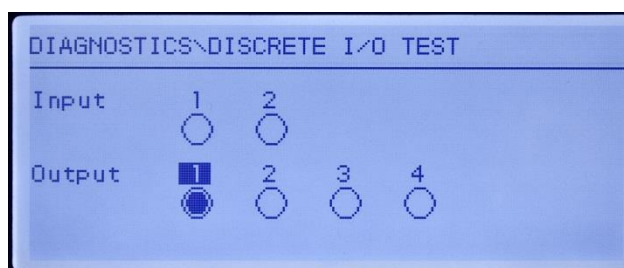

Figure 5-6: Discrete I/O Test Screen, Output 1 Active
- 3 Focus for control of a specific output is indicated by reverse video of the number above the output. When an output is in focus, pressing the UP navigation key turns the output ON. A smaller, solid circle is shown to indicate that output is ON. This is shown in Figure 5-6.